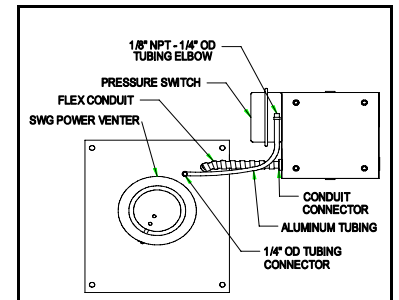

Figure 3
2. Fasten the flexible conduit from the SWG Venter into the conduit connector. Mount the CK-63 Junction box or installer supplied junction box onto the wall or floor joist without straining the flexible conduit. Fasten the CK-63 Junction Box through the four dimpled locations on the base of the box. (See Figure 3)
1. Attach the 1/4 inch tubing connector to the pressure tube on the SWG Venter. (See Figure 3)